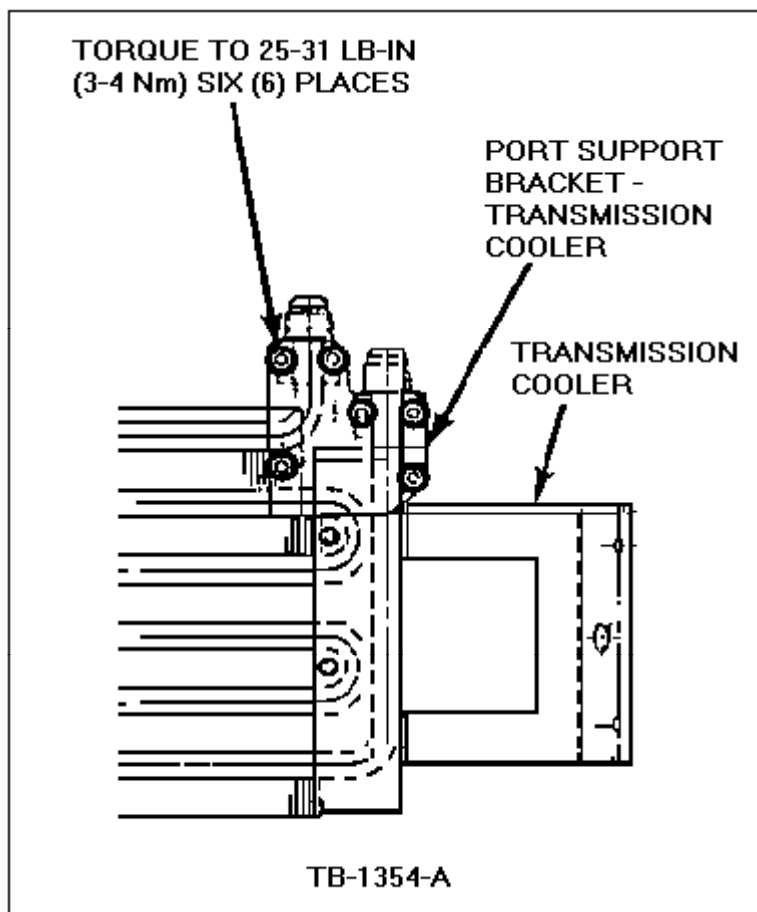

Figure 1 - Article 90-2-15
1. Tighten the oil cooler support bracket fasteners to a torque of 25-31 lb-in (3-4 N-m), Figure 1.